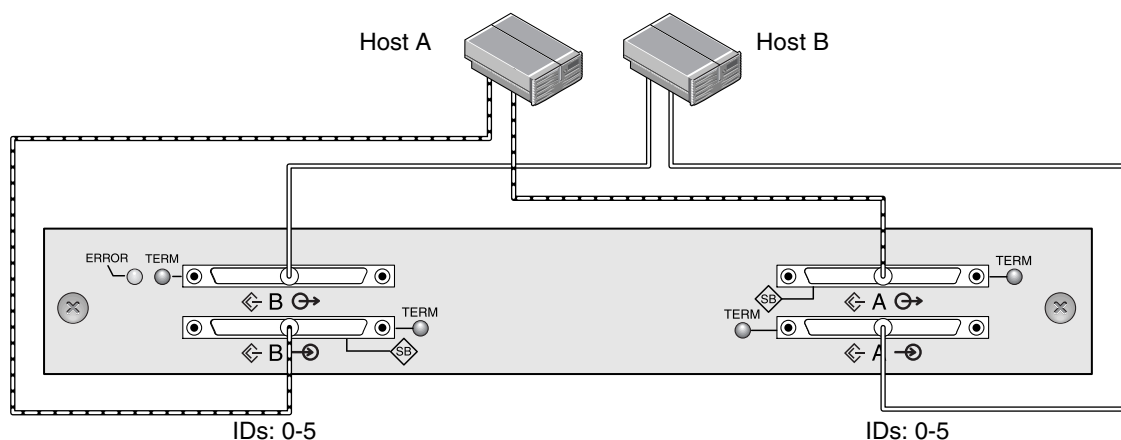

FIGURE B-4 Dual-Host, Split-Bus Multi-Initiator JBOD Configuration
FIGURE B-4 shows a multi-initiator, split-bus configuration where each host is connected to each host channel. This configuration is common for failover protection in a network cluster environment.
2. **Connect each JBOD port to a host as shown in FIGURE B-4.**